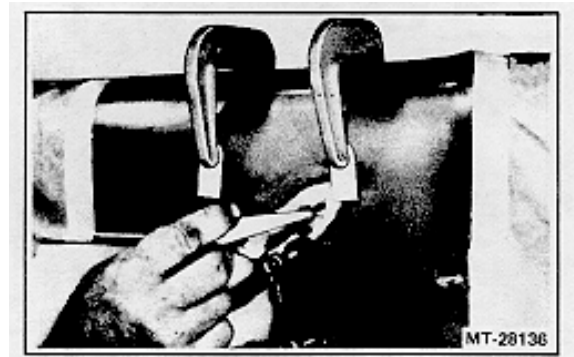

Figure 38 Cleaning Excess Adhesive From Damaged Area
19. Hold backing patch with clamps or screws and allow the adhesive to harden for the time given in the manufacturer's instructions (Figure 38).